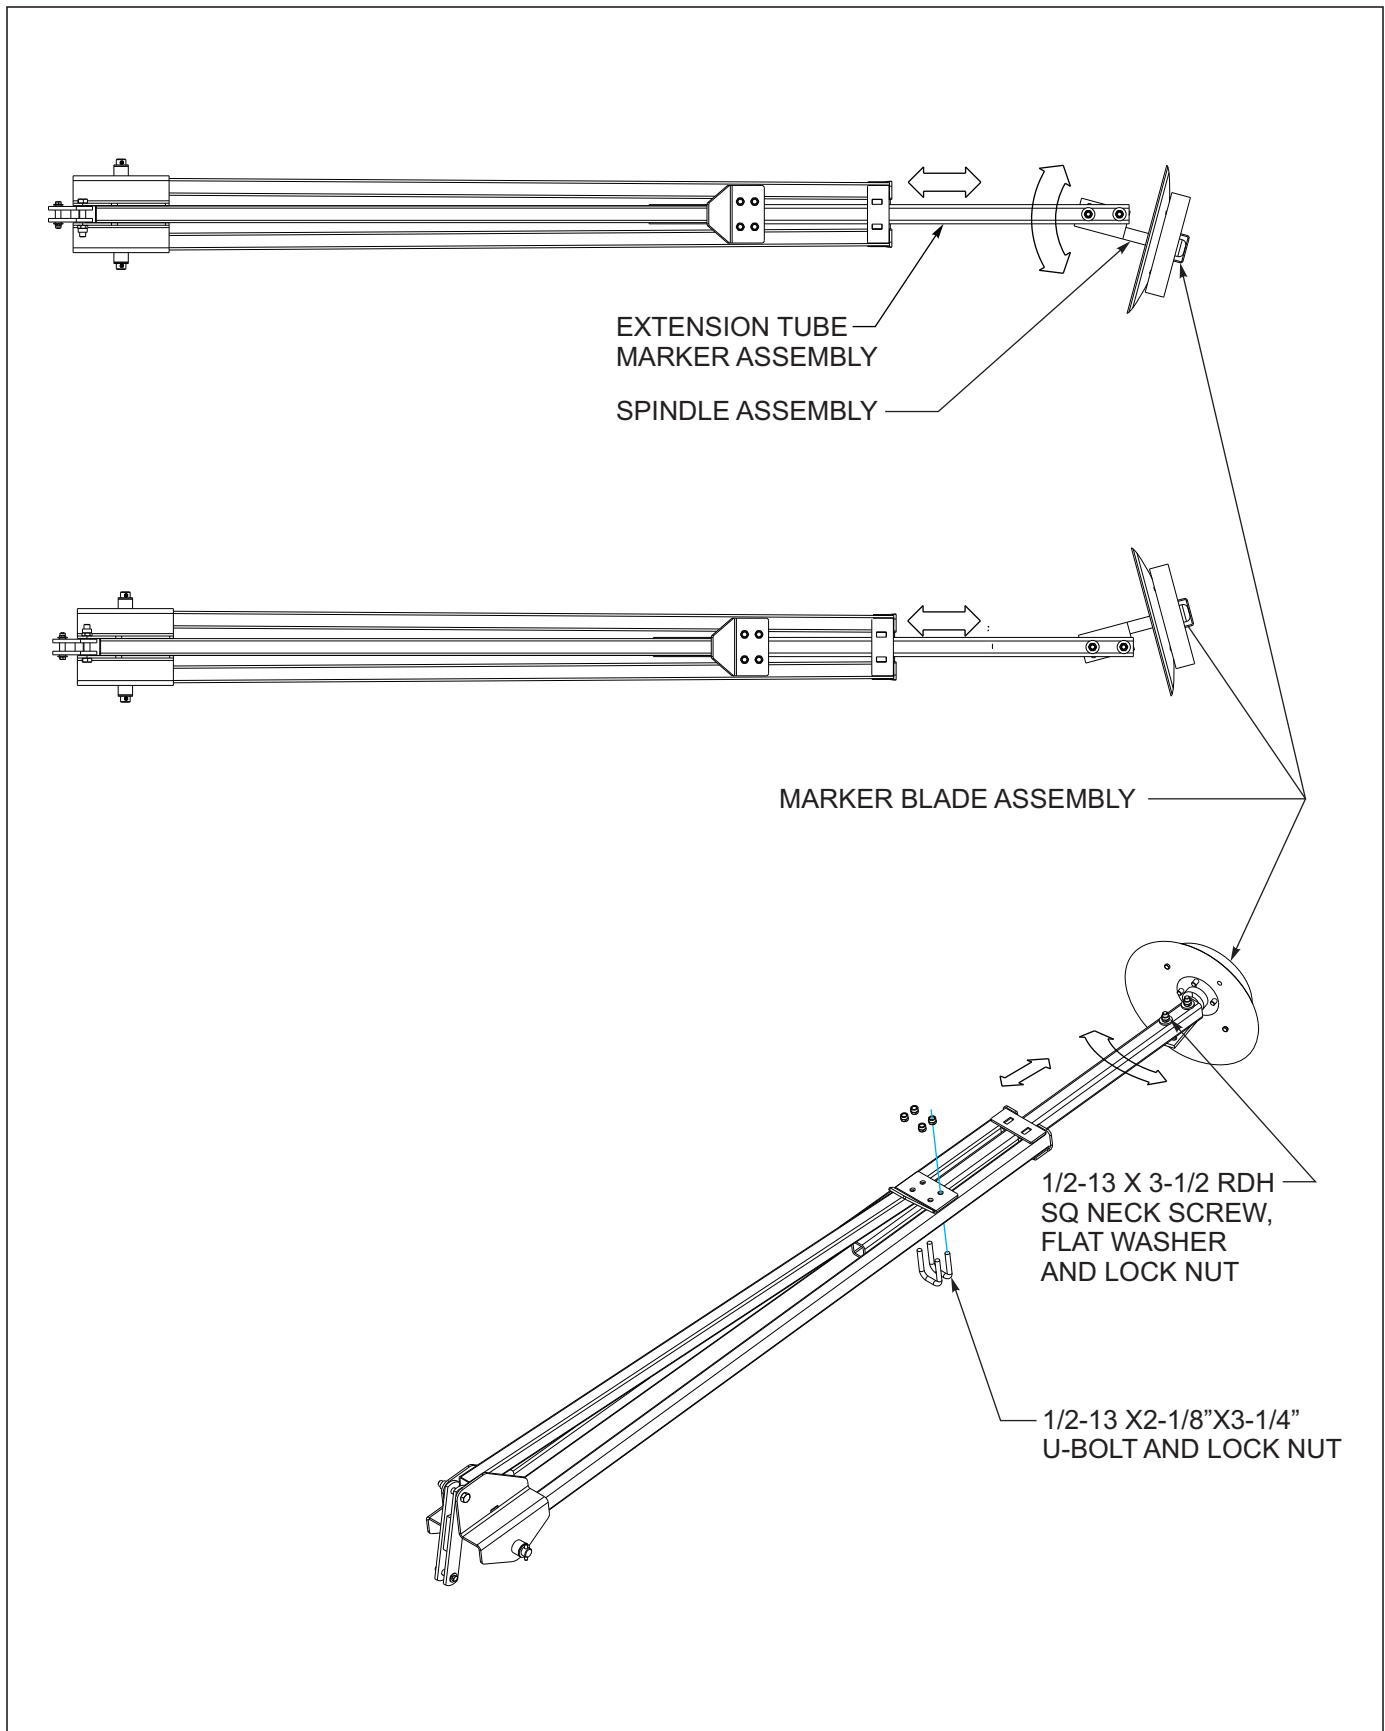

Figure 4-33: Hydraulic Row Marker Adjustment
- a. The disc angle may be adjusted to leave a wider or narrower cut. The steeper the angle the wider the cut will be (See Figure 4-33).